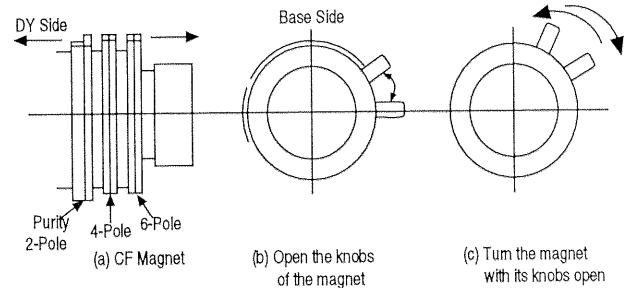

FIGURE 1-4-1
- (2) Open the knobs of 4-pole magnet (2 sheets) (Figure 1-4-1(b)) and match the blue/red vertical lines at the center of the screen as shown in Figure 1-4-2(a).
(3) Turn the 4-pole magnet with its knobs open (Figure 1-4-1(c)) and match the blue/red horizontal lines as shown in Figure 1-4-2(b).